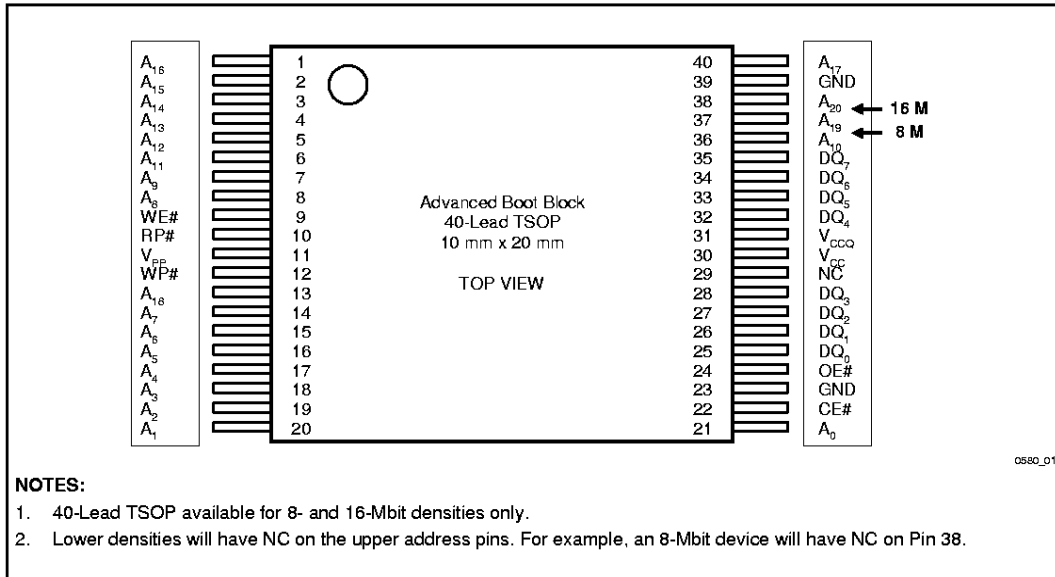
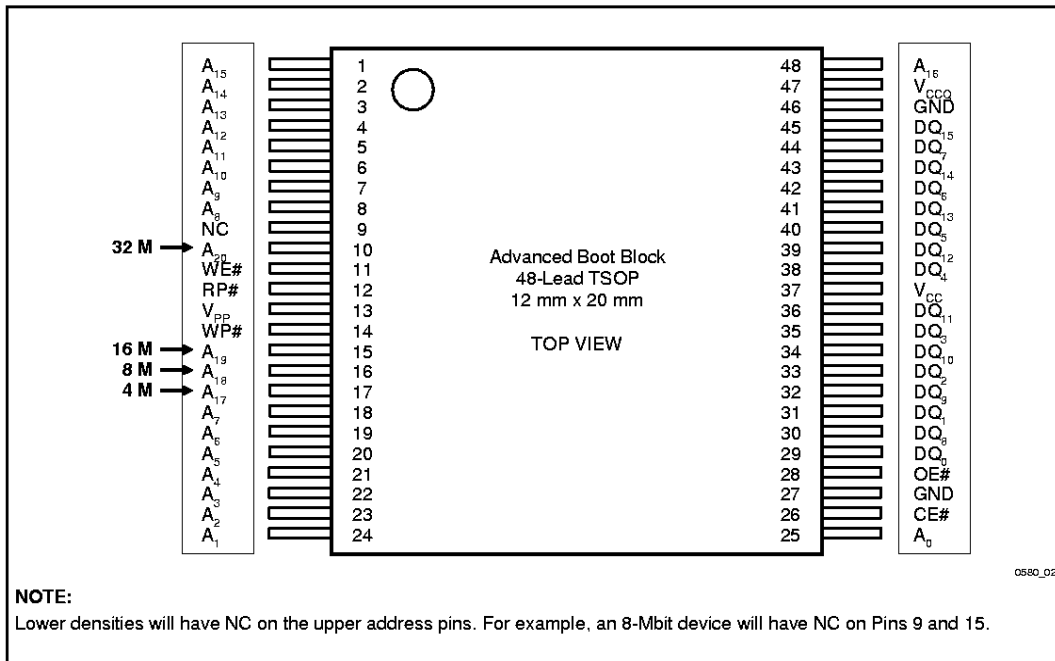
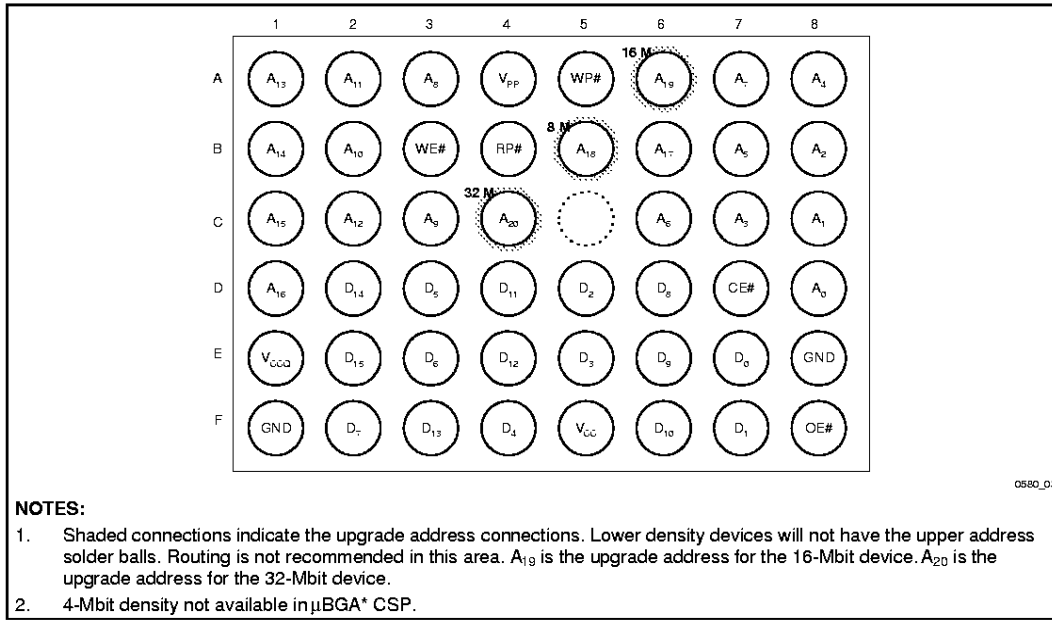
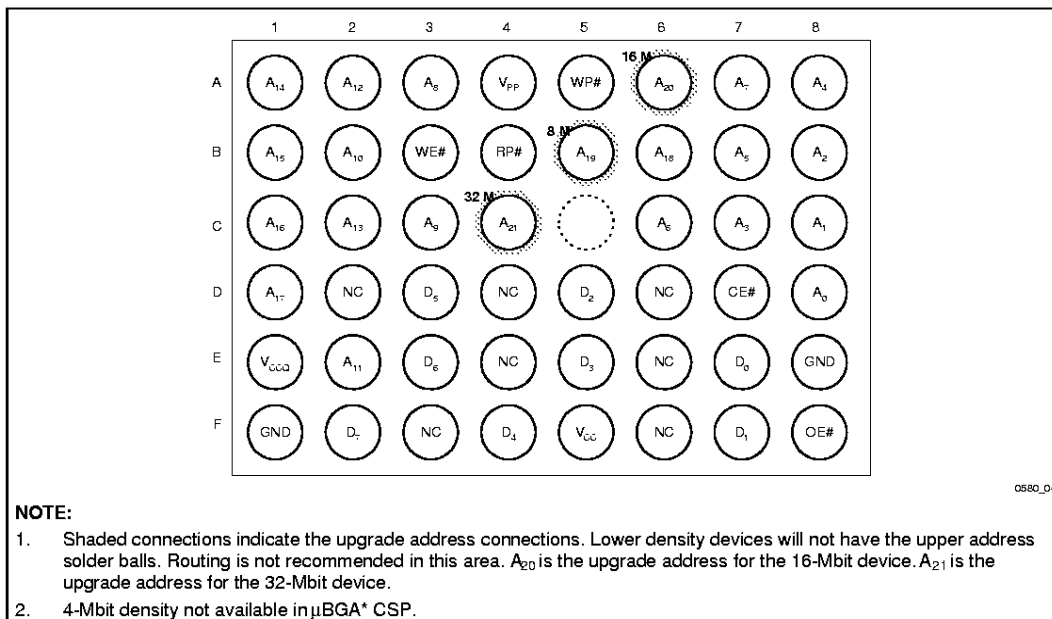

Figure 1. 40-Lead TSOP Package for x8 Configurations
Figure 2. 48-Lead TSOP Package for x16 Configurations
Figure 3. x16 48-Ball μBGA\* Chip Size Package (Top View, Ball Down)
Figure 4. x8 48-Ball μBGA\* Chip Size Package (Top View, Ball Down)
- $V_{CCQ}$  input of 1.65 V–2.5 V on all I/Os. See Figures 1 through 4 for pinout diagrams and  $V_{CCQ}$  location
The Smart 3 Advanced Boot Block flash memory is available in 40-lead TSOP (x8, Figure 1), 48-lead TSOP (x16, Figure 2) and 48-ball  $\mu$ BGA packages (x8 and x16, Figure 3 and Figure 4 respectively). In all figures, pin changes necessary for density upgrades have been circled.